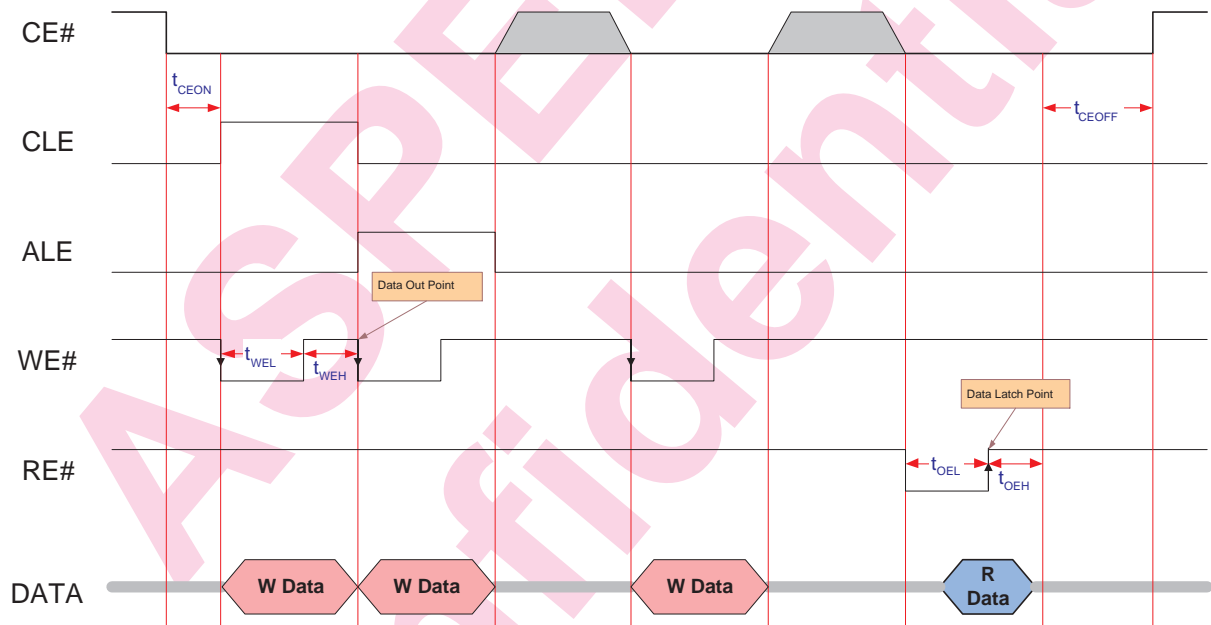

Figure 63: NAND Flash Timing
- Figure 63: NAND type flash control timing